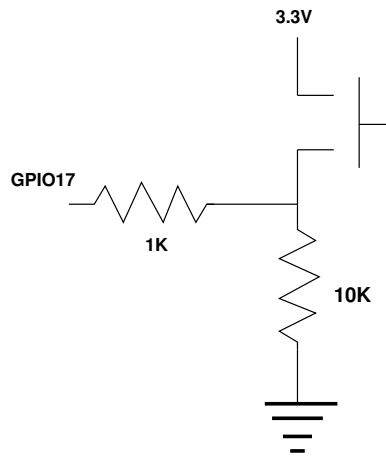

Figure 3: Switch connected to GPIO.
- (a) Connect GPIO17 to a switch as shown in Figure 3. If you do not have a switch, you can instead just use a piece of wire connected to 3.3V and touch the other end to the proper pin.